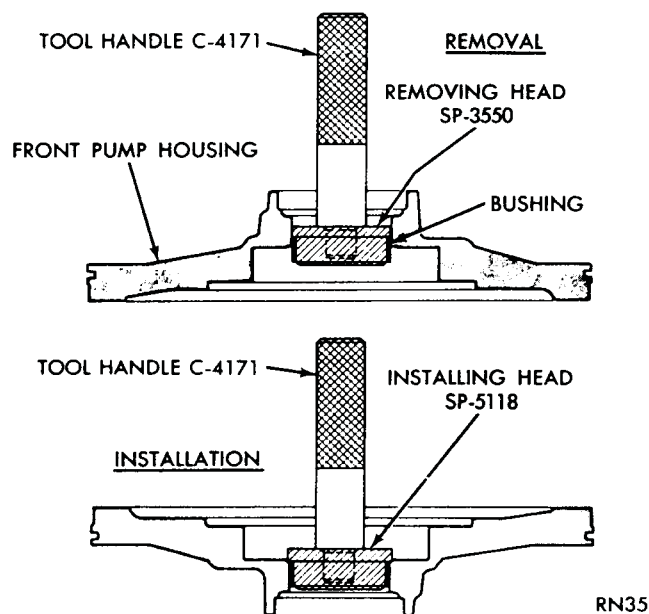
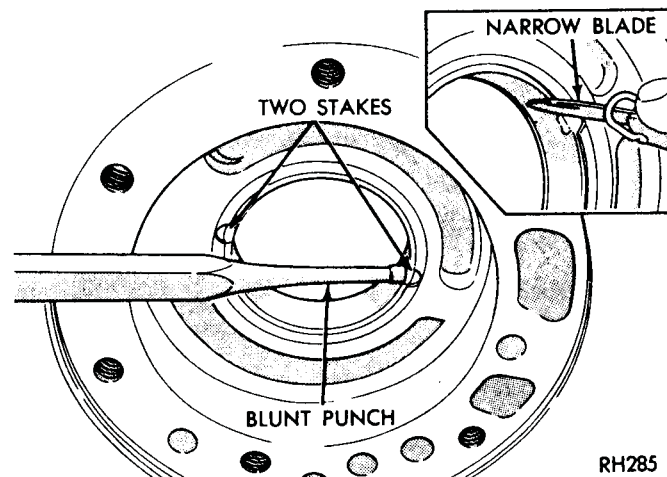

Fig. 15—Replacing Pump Bushing (A-727)
Fig. 16—Stake Pump Bushing (A-727)
(2) Place removing head Tool SP-3550 in bushing, and install handle Tool C-4171 in the removing head (Fig. 15).
(3) Drive bushing straight down and out of the bore. Be careful not to cock tool in the bore.
(4) Position a new bushing on installing head Tool SP-5118.
(5) With pump housing on a smooth, clean surface (hub end down), start bushing and installing head in the bushing bore. Install handle in installing head.
(6) Drive bushing into housing until tool bottoms in the pump cavity. Be careful not to cock tool during installation.
(7) Stake the bushing in place by using a blunt punch or similar tool (Fig. 16). A gentle tap at each stake slot location will suffice.
(8) Using a narrow-bladed knife or similar tool, remove high points or burrs around staked area. Do not use a file or similar tool that will remove more metal than is necessary.
(9) Thoroughly clean pump housing before installation.